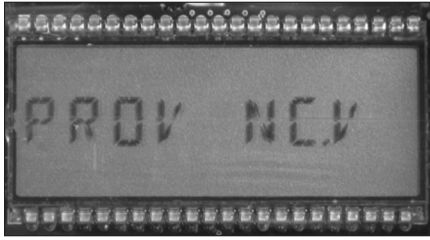

Figure 6 - LCD screen displays **PROV NC.V**
- A. Swipe the magnet across the “swipe” line until the screen displays **PROV NC.V** (Figure 6), and then stop swiping.